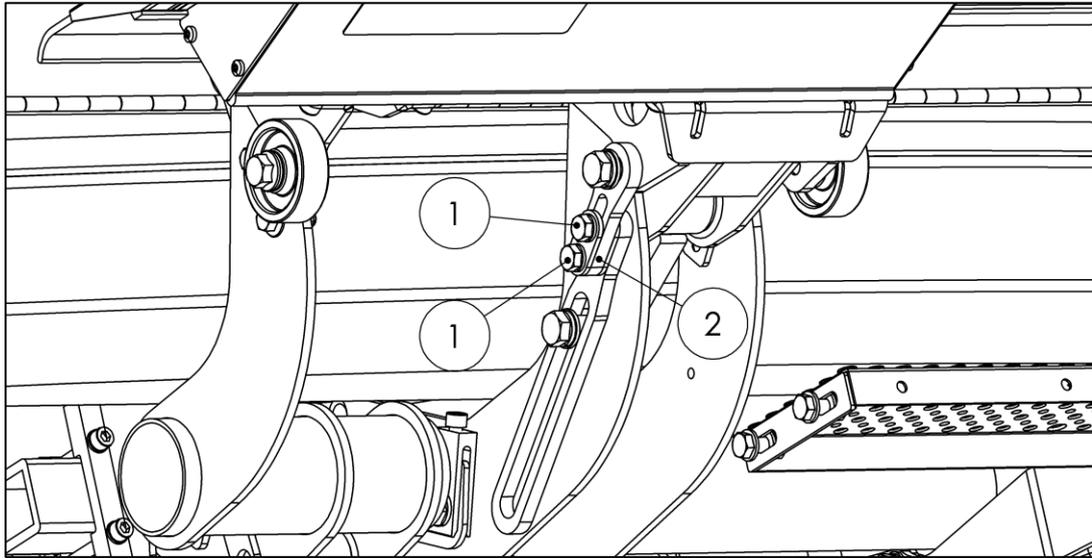

Fig. 81
Adjust the screws (1) on the clamping plate (2) (see Fig. 81).